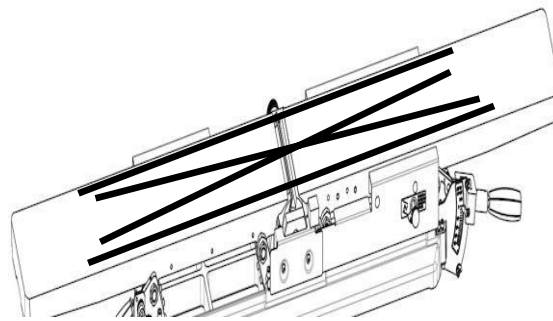

Figure 40: Verification of parallelism/coplanar
**STEP 6:** Remove infeed table depth stop release knob and infeed table cover, loosen set screws and place straight edge across infeed and outfeed tables as in **FIG. 40**, and adjust eccentric bushings under infeed table as STEP 4 for outfeed table.
**STEP 6:** Remove infeed table “depth stop release knob” and infeed table cover, loosen cap screws and set screws and place straight edge across infeed tables as in Fig. 40, and adjust eccentric bushings under infeed table (as in Step 4) for outfeed table.
**STEP 7:** Verify parallelism in each position as in Fig. 40 confirm eccentric bushings are snug and tighten set screws in eccentric bushings on infeed table.